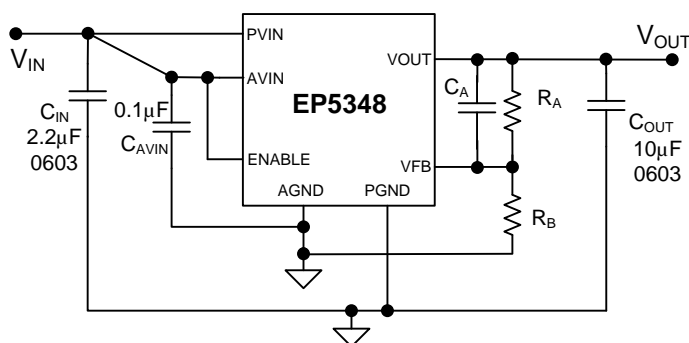
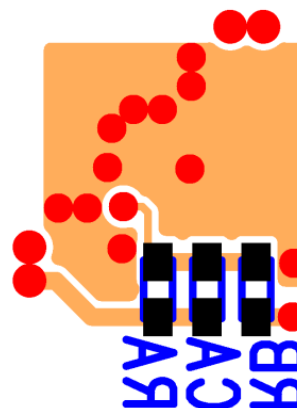

Figure 3: Typical Application Circuit
Figure 5: Bottom PCB Layer Critical Components (RA, RB, CA) & Copper for Minimum Footprint
Referring to Figure 3, use 200 kΩ, 1% or better for the upper resistor ( $R_A$ ). The value of the bottom resistor ( $R_B$ ) in kΩ is given as:
**Recommendation 4:** As Figure 5 shows,  $R_A$ ,  $R_B$ , and  $C_A$  have been placed on the back side to minimize the footprint. These components also need to be close to the VFB pin (see Figures 3, 4 and 5). The VFB pin is a high-impedance, sensitive node. Keep any trace connected to this node as short and thin as possible. Whenever possible, connect  $R_B$  directly to the AGND pin instead of going through the GND plane. In the layout shown above,  $R_B$  goes to the via next to AGND pin using a dedicated trace on layer 3 not shown here. Please see the Gerber files at [www.altera.com/enpirion](http://www.altera.com/enpirion).